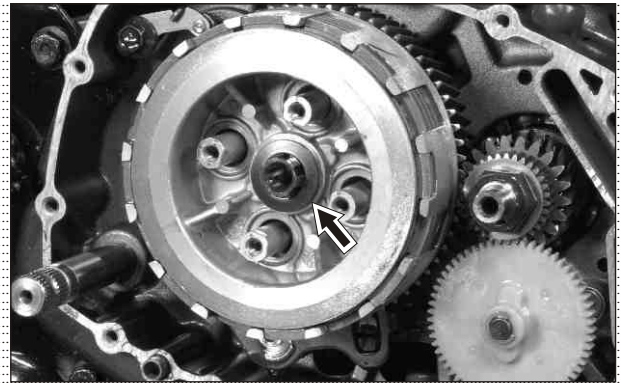

Fig. 3.11
- Take out spring disc from clutch shaft. (Fig. 3.11)